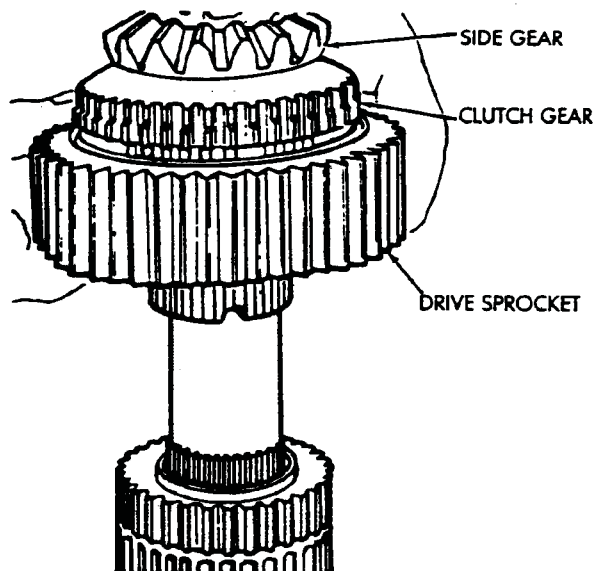

Fig. 4-23 Remove Side Gear, Clutch Gear and Drive Sprocket
34. Remove side gear, clutch gear and drive sprocket (Fig. 4-23).